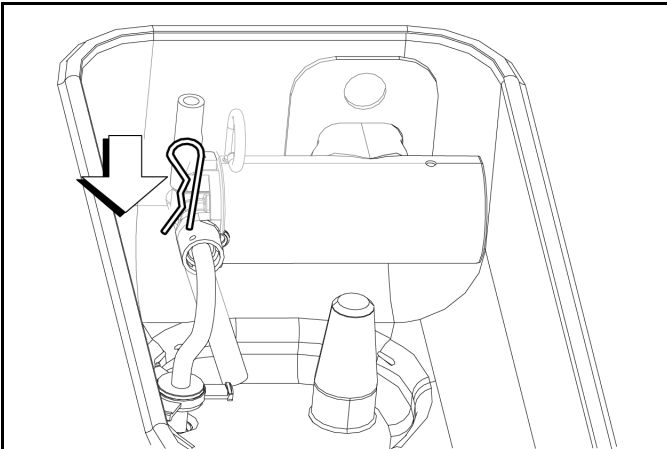

Figure 6-49
4. Install the pump end of the mix feed tube and secure with the cotter pin. (See Figure 6-49.)